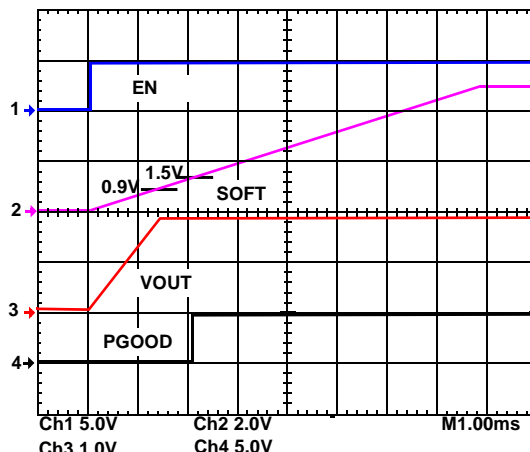

FIGURE 1. START UP
1.5V, the power good (PGOOD), the mode control, and the fault functions are enabled, as depicted in Figure 1.